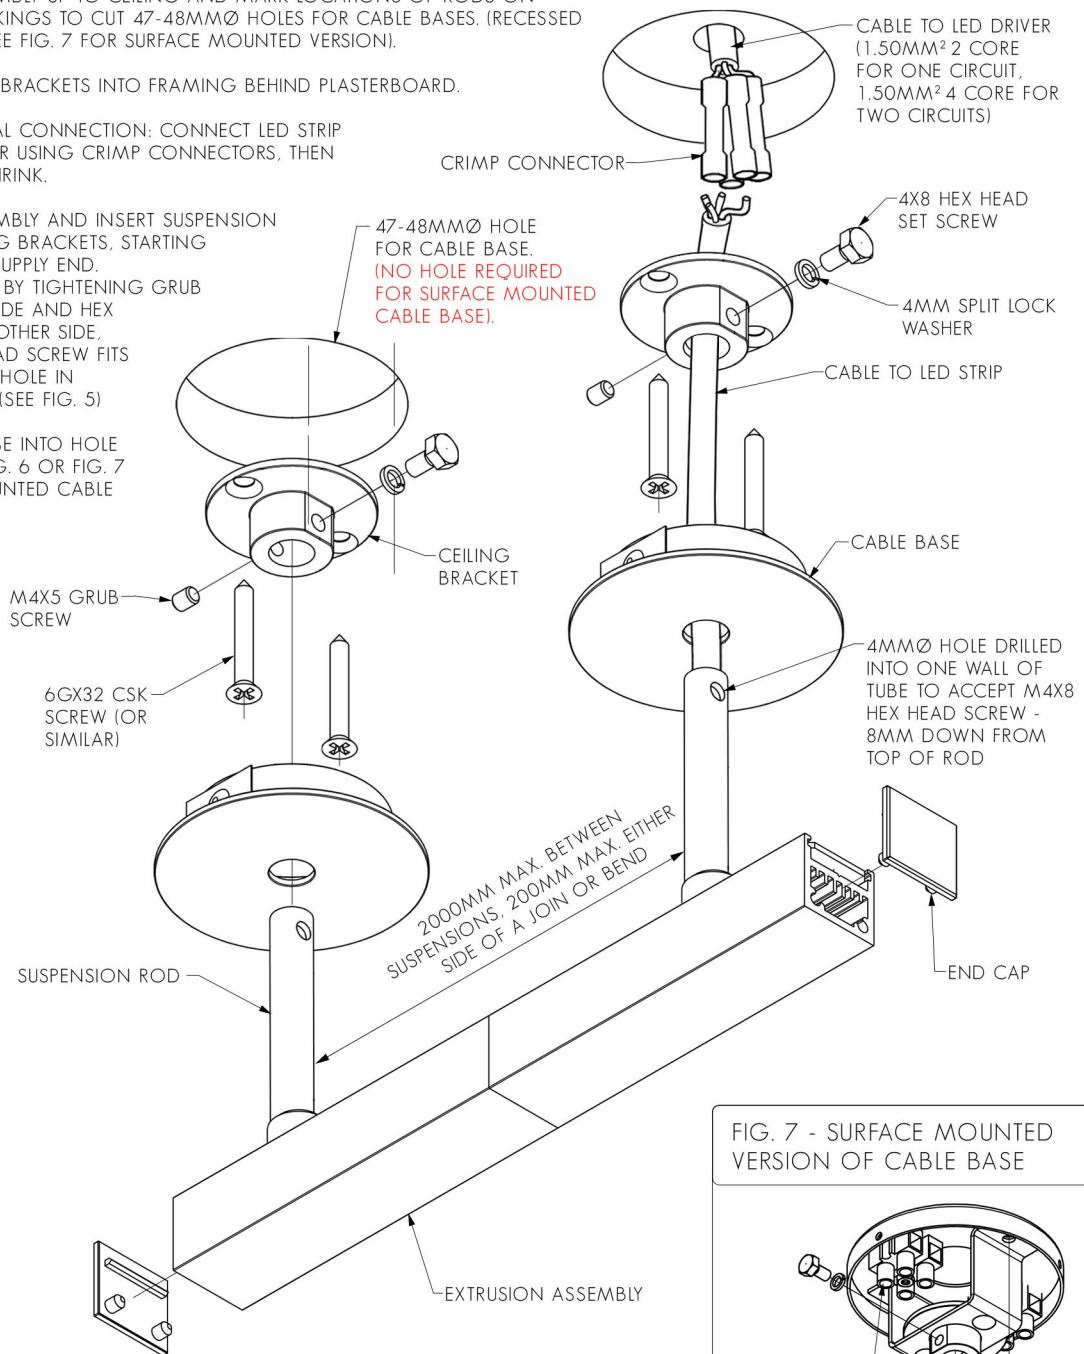
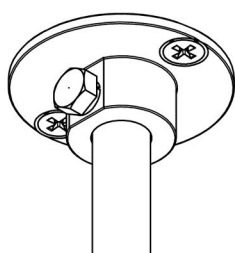

FIG. 7 - SURFACE MOUNTED VERSION OF CABLE BASE
FIG. 6 - INSERT CABLE BASE IN TO CEILING
1. LIFT LIGHT ASSEMBLY UP TO CEILING AND MARK LOCATIONS OF RODS ON CEILING. USE MARKINGS TO CUT 47-48MMØ HOLES FOR CABLE BASES. (RECESSED VERSION ONLY - SEE FIG. 7 FOR SURFACE MOUNTED VERSION).
5. PUSH CABLE BASE INTO HOLE IN CEILING (SEE FIG. 6 OR FIG. 7 FOR SURFACE MOUNTED CABLE BASE).